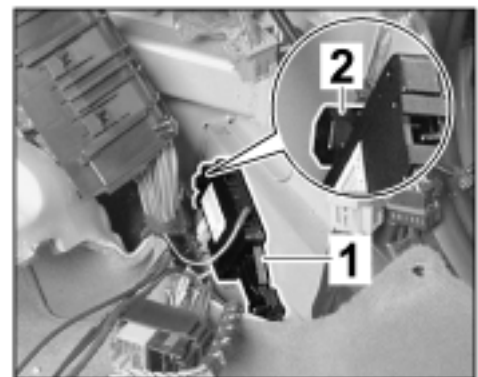

Figure 35
5.6.2 Position antenna control unit ⇒ *Figure 35 -1-* at the bottom of the A-pillar (threaded bolts) and fit fastening part ⇒ *Figure 35 -2-*.